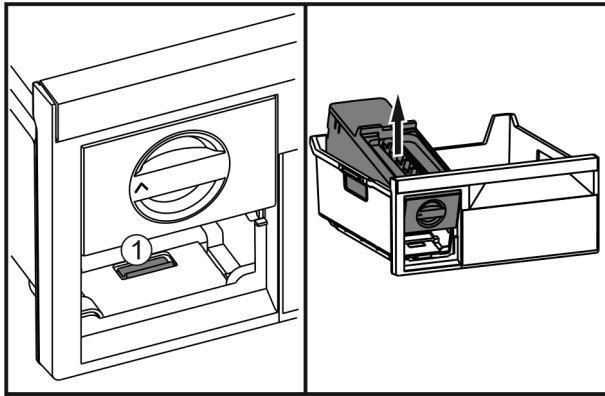

Fig. 54
- ▶ Press the lug Fig. 54 (1), lift up the EasyTwist-Ice at the back and take it out of the freezer drawer.